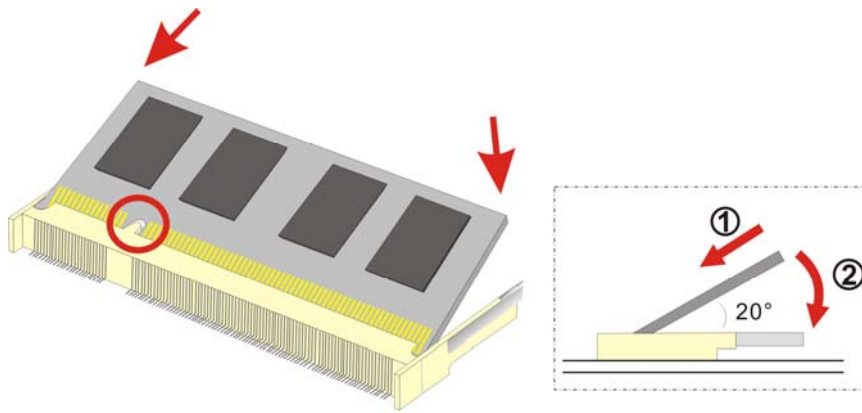

Figure 3-5: DDR2 SO-DIMM Module Installation
Step 11: Install the new DDR memory module by pushing it into the socket at an angle (**Figure 3-5**).
Step 12: Gently pull the spring retainer clips of the SO-DIMM socket out and push the rear of the DDR memory module down (**Figure 3-5**).